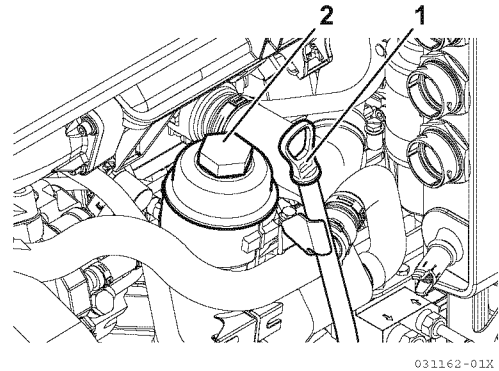

Figure 4-1
3. Loosen the engine oil filter cap (2, **Figure 4-1**) 1 - 2 turns with a socket wrench. Allow to sit a few minutes to allow oil to drain into crankcase.
4. Remove the engine oil dipstick (1, **Figure 4-1**). Attach an oil drain pump and pump out the oil. Dispose of waste properly.